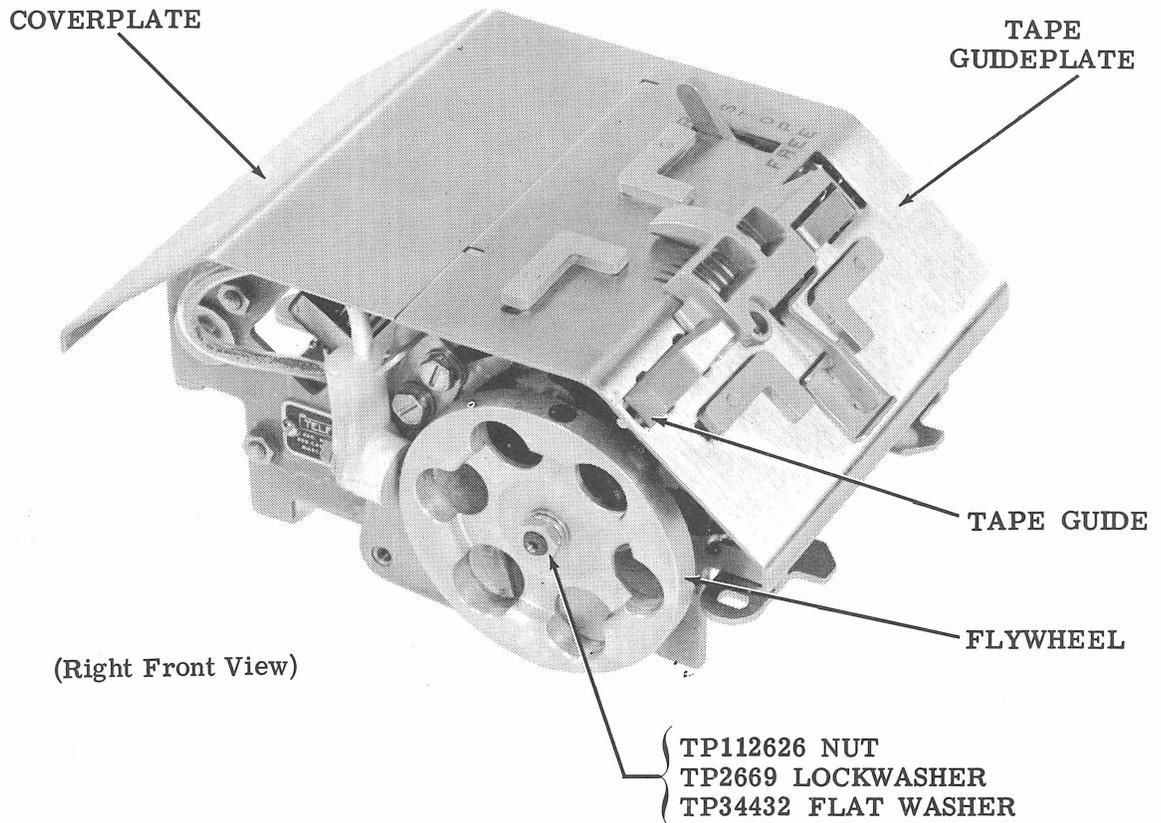

Figure 3 - Tape Reader Unit
(1) Remove the driven gear or driven sprocket, whichever is applicable (2.01).
(2) Remove the TP151688 screw, the two TP125011 flat washers, the TP3640 lockwasher, and the TP3599 nut. (The TP151688 screw passes through the main shaft at the flywheel shoulder.)
(3) While holding the TP171282 flywheel firmly, remove the TP112626 nut, TP2669 lockwasher, and TP34432 flat washer (Figure 3).
2.20 To remove any of the four adjustable tape guides (TP179516 or TP179517), remove the associated nut, flat washer and spring (Figure 3).